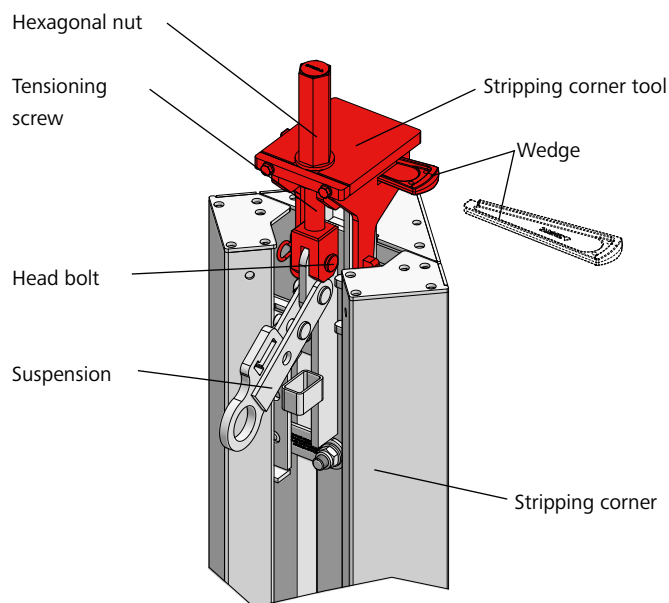

Fig. 36.3
1. Place the stripping support / stripping corner tool onto the connecting device at the top of the stripping corner. Make sure the suspension is inclined downwards (Fig. 36.3).
2. Connect the stripping support / stripping corner tool to the stripping corner with the head bolt 16/40 and cotter pin 4 that are both integrated into the tensioning screw of the stripping support or the stripping corner tool (Fig. 36.3).
3. Lock the stripping support / stripping corner tool to the stripping corner by driving the stripping corner's wedge with a few hammer blows into the opening on the side of the stripping support / stripping corner tool (Fig. 36.3).